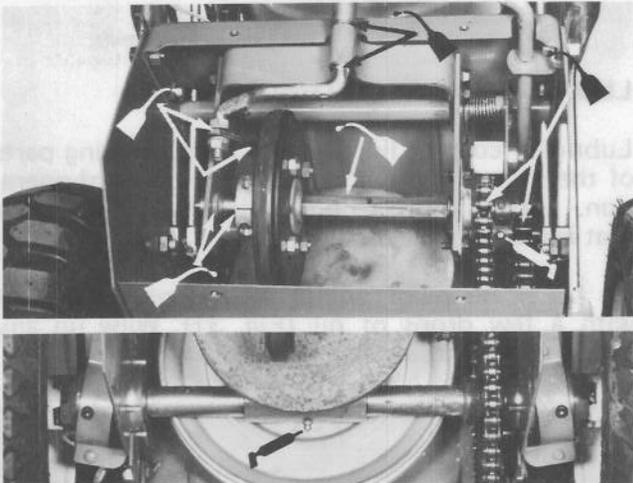

Figure 33
3. Remove four thread forming screws holding rear shield against traction unit; then slide shield away from traction unit. Lightly lubricate drive chains, sprocket bushing, nylon ring, hex shaft, and the other pivot points with oil or #2 grease (Fig. 33). Wipe up any excess oil or grease. Reinstall rear shield against traction unit with four thread forming screws.